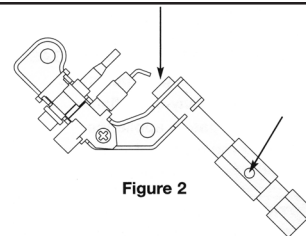

Figure 2
- Burner orifice at orifice opening (D)
- Pilot (E) through the holes in the pilot indicate by arrows in Figure 2. Never touch drilled holes in pilot, as they are extremely delicate. Insertion of pins, wire, etc. is likely to disturb proper gas flow.
- b. If necessary, use compressed air to clean venturi tube (F) and ceramic tile (G).